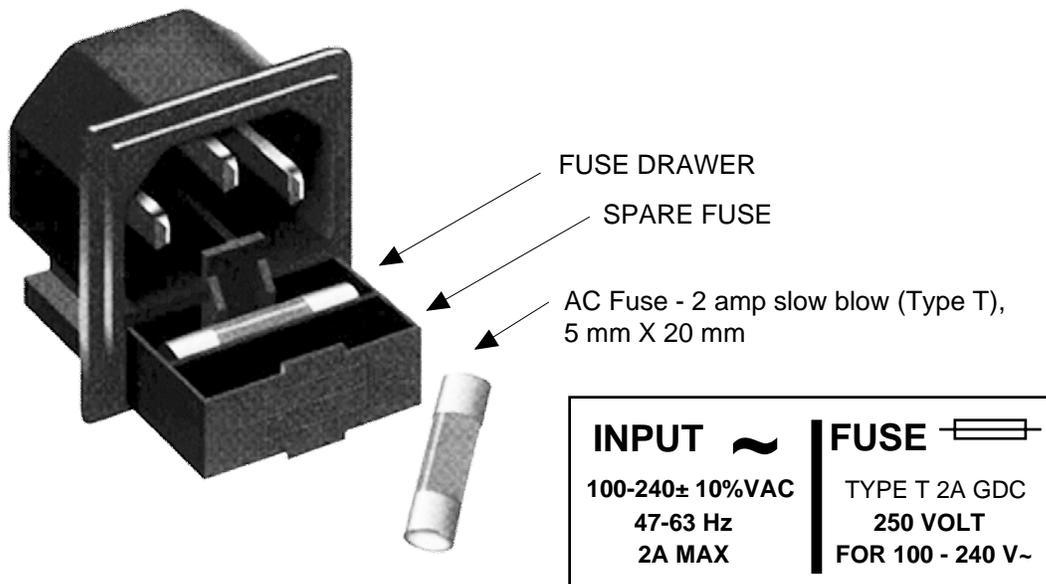

FIGURE 2.4 Fuse Location and Spare Fuse
16. **AC Fuses** - The fuse is a 5 mm X 20 mm, 2 amp slow blow (Type T) and is inserted in the far slot in the drawer below the AC input as shown in Figure 2.4. There is a spare fuse in the near slot. If a fuse continues to open, the power supply is most likely defective.